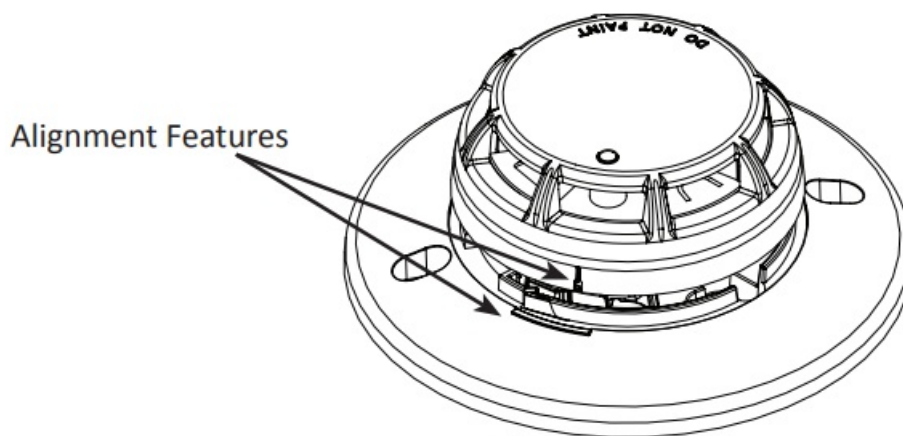

FIGURE 2
3. To install the detector head onto the base, match the detector heads to the base using the alignment feature and twist clockwise until the detector heads snap into place (FIGURE 2).